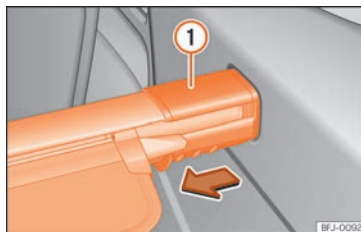

Fig. 116 In the luggage compartment: remove the rear shelf.
- Press the support of the cover » » Fig. 116 ① in the direction of the arrow and hold it in this position.
- Remove the cover support » » Fig. 116 ①.